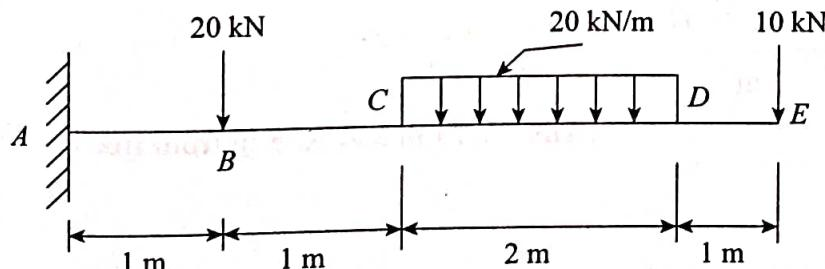

Figure 6.21
6.7 Draw SF and BM diagrams for a cantilever loaded as shown in Fig. 6.21. Show all the principal values on both diagrams.